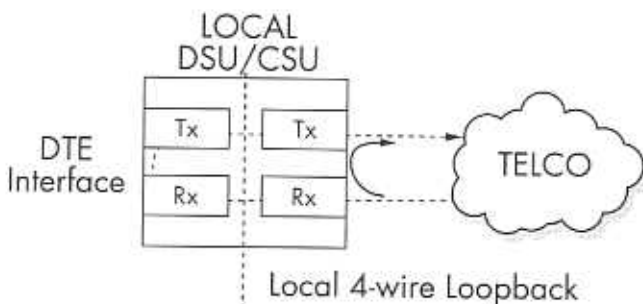

Figure 6-8
The Loop Only (RT) test allows the loop interface and a major portion of the DTE interface for the local DSU III DBU Rackmount to be tested from the remote site over the actual communication circuit. Figure 6-8 illustrates the loopback point and the signal paths for this test.